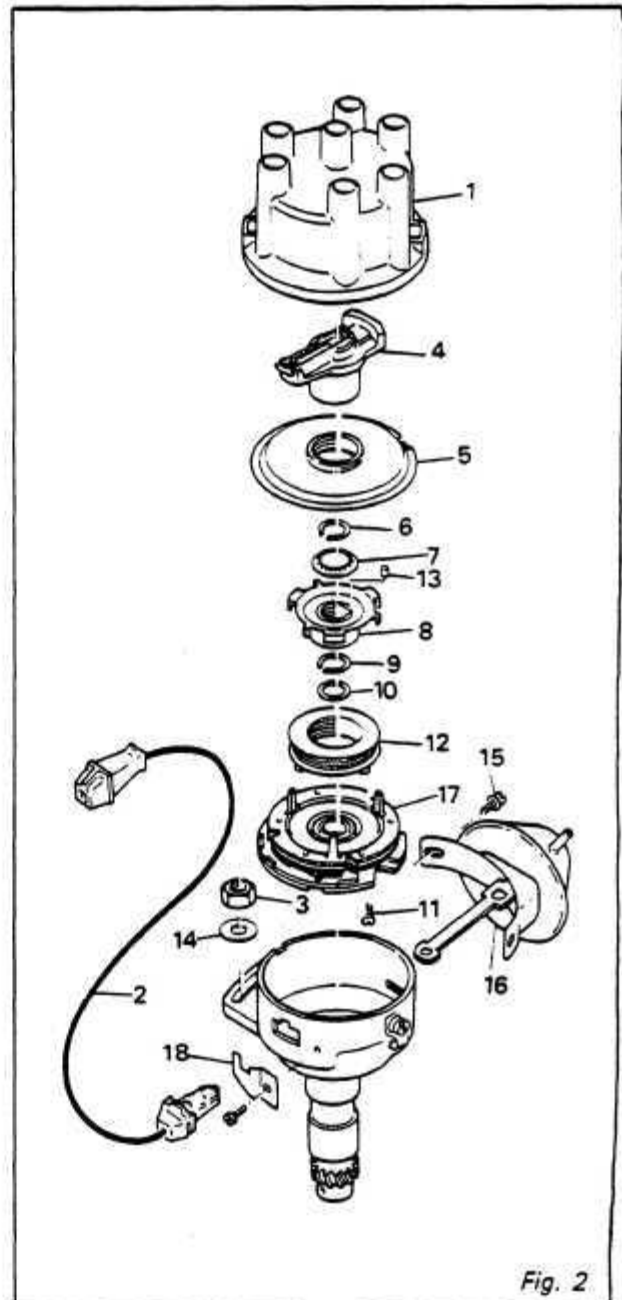

Fig. 2
2. Remove Distributor Cap (1). Fig. 2
3. Disconnect wire (2) between E.C.U. and Distributor.
4. Unscrew distributor retaining nut (3) and washer (14).
REFITTING — Figs. 2 and 3
DISMANTLING DISTRIBUTOR — Fig. 2